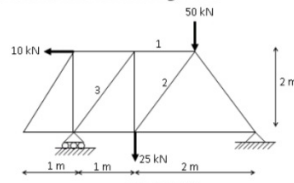

Figure: 1
1. Using the method of sections, determine the force in the members 1, 2 and 3 of a plane truss supported and loaded as shown in Figure 1. [15]